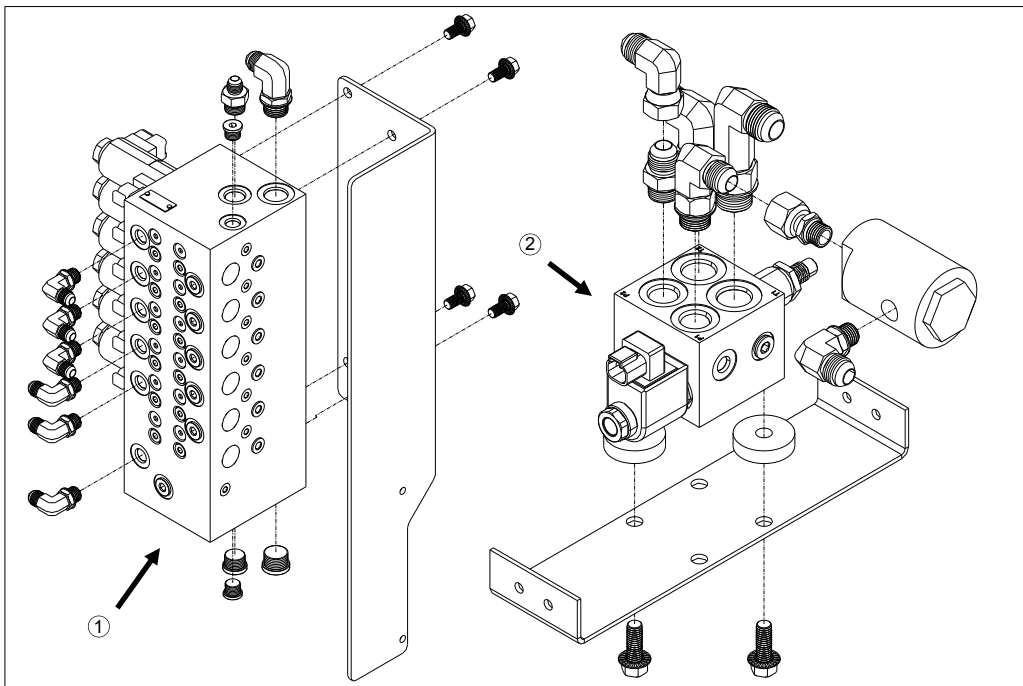

FIG 5.23
The electro-hydraulic valve (fig. 5.23, item 1), located on the front toolbar controls the lift cylinders in
their upward and downward movements. The dump valve (fig. 5.23, item 2), located directly under the operator's seat, is the main valve which controls the amount of pressure going to the lift valve. The dump